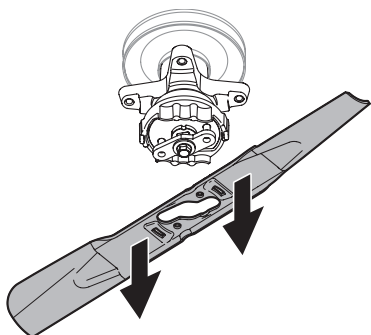

Figure 46
- When the hole in the center of the blade aligns with the tractor blade retainer, carefully lower the blade. See Figure 46.